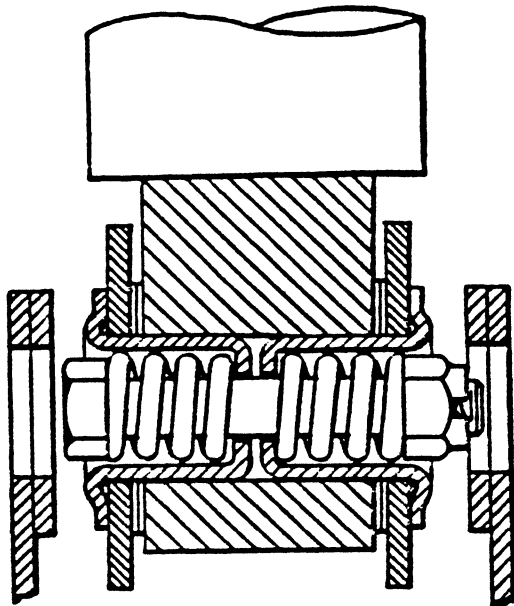

FIG. 4
- (c) At the blade hinge, remove the bolt, springs, spacers (only on 600 amp. breaker) and thimbles, see Fig. 4.